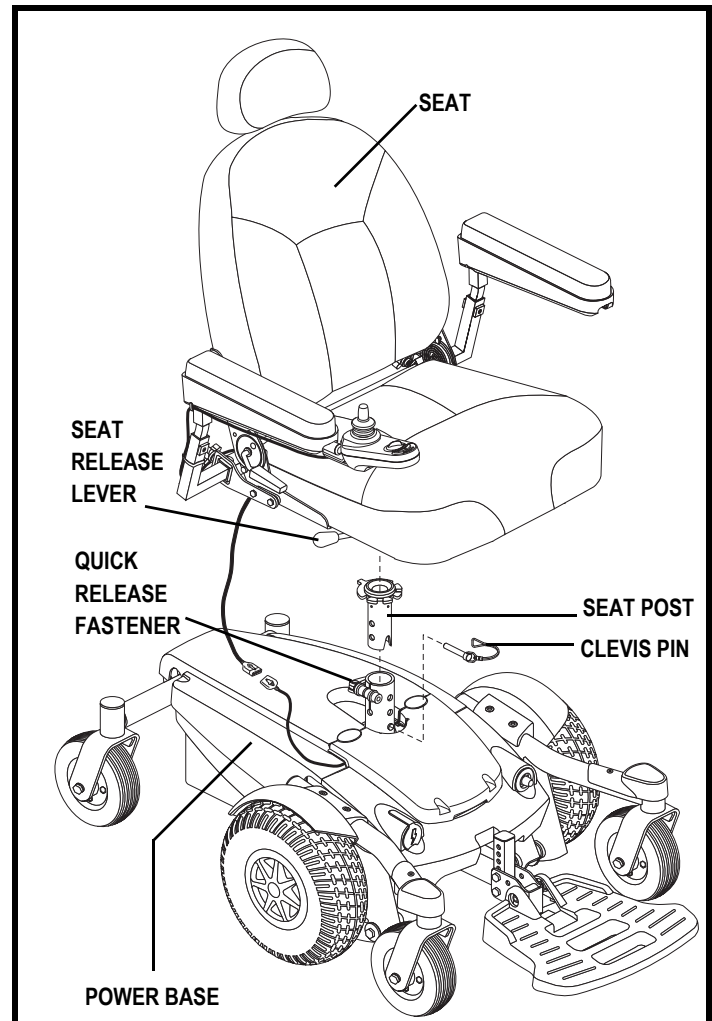

Figure 19. Seat Height Adjustment
4. Loosen the quick release fastener. See figure 19.
5. Remove the seat. See figure 19.